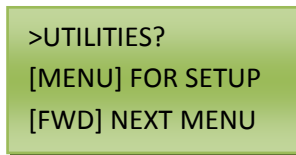

Figure 14.1
1. Press MENU on the keypad and the screen will say >UTILITIES? See Figure 14.1 for a visual example. If still in the Sequence Setup menu, just press BACK once and FWD once, to get to the >UTILITIES? Press ENTER on the keypad to setup Utilities.